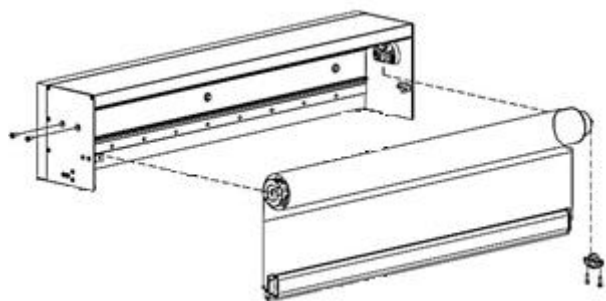

Fig. 9. Diagram for drilling the mounting holes in the guide profile and the guide revision profile.
- The profiles: guide and guide revision are supplied without pre-drilled mounting holes. These must be drilled by yourself according to the following instructions (Fig. 9). A minimum of 3 mounting holes are required for each 1 m length of the guide profile. When drilling the mounting holes in the guide, remember to remove the guide profile.
- Determine and then drill the mounting holes in the guide profile and the guide revision in accordance with as shown in Fig. 9.